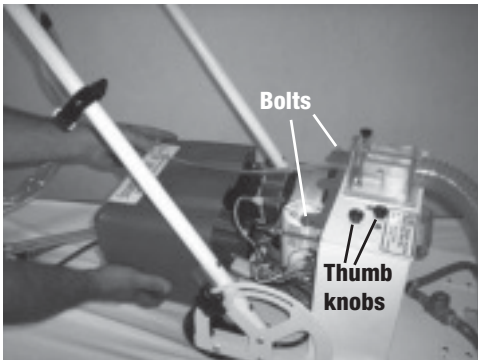

Figure 2: Removing engine compartment cover
3. Unscrew black thumb knobs from top of engine compartment cover. Lift top of cover straight up off of bolts and pull it back (fig. 2).